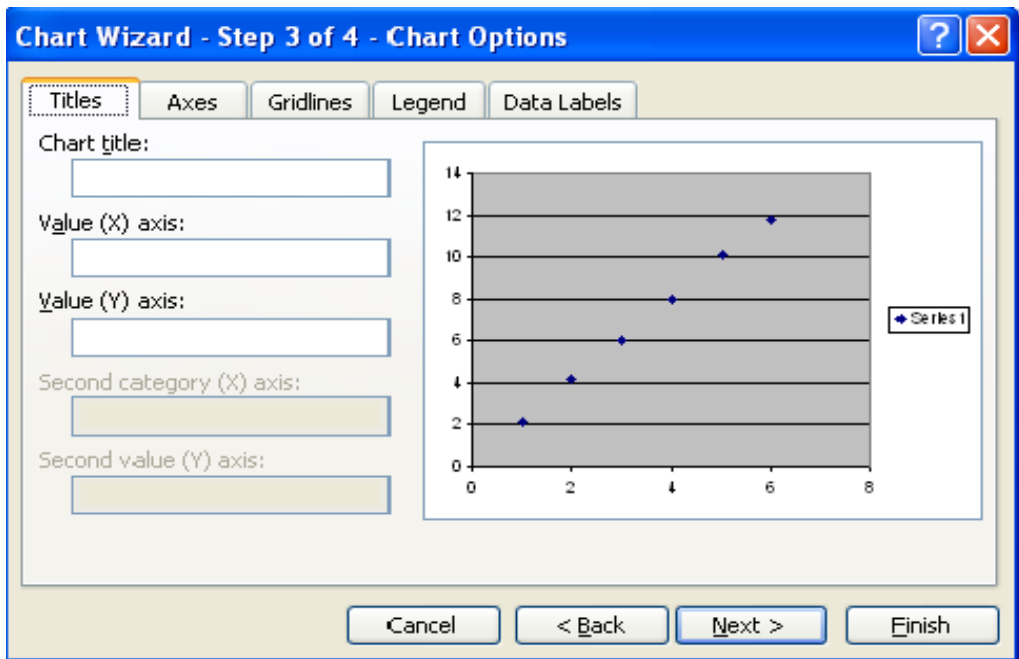

Figure 10
- 5- In the "Chart Options" dialog box: Enter the title of the chart and titles for the X and Y-axes. Other options for the axes, grid lines, legend, data labels, and data table can be changed by clicking on the tabs. Click Next to move to the next set of options. (**Fig. 10**).